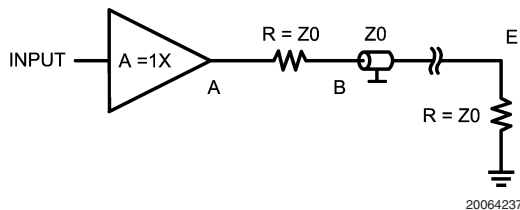
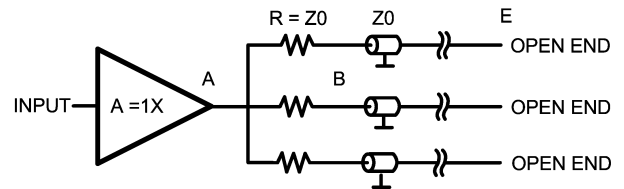
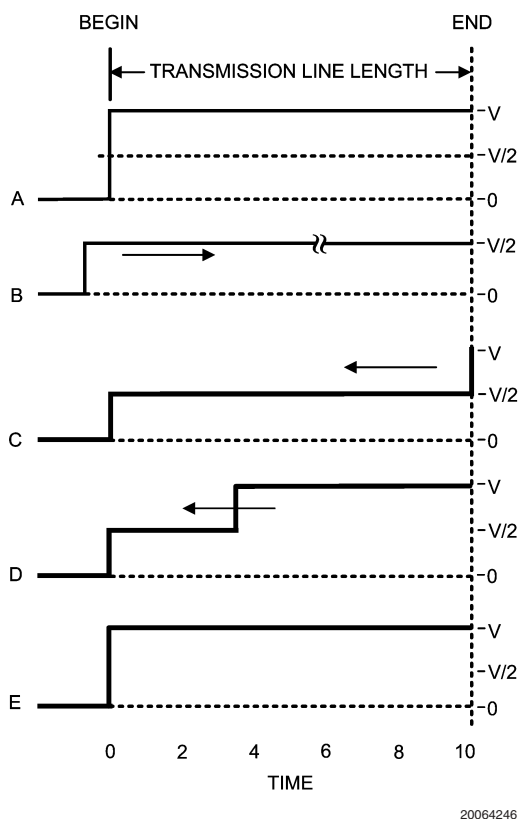

FIGURE 1.
FIGURE 3.
FIGURE 6.
- Use one buffer to drive one transmission line (see *Figure 1*)
- Use one buffer to drive several transmission lines each driving a different receiver. (see *Figure 3*)
In most cases, it is unrealistic to think that we can place a driver or buffer so close to the load that we don't need a transmission line to transport the signal. The pcb trace length between a driver and the load may affect operation depending upon the operating frequency. Sometimes it is possible to do measurements by connecting the DUT directly to the analyzer. As frequencies become higher the short lines from the DUT to the analyzer become long lines. When this happens there is a need to use transmission lines. The next point to examine is what happens when the load is connected to the transmission line. When driving a load, it is important to match the line and load impedance, otherwise reflections will occur and this phenomena will distort the signal. If a transient is applied at $T = 0$ (*Figure 6*, trace A) the resultant waveform may be observed at the start point of the transmission line. At this point (begin) on the transmission line the voltage increases to (V) and the wave front travels along the transmission line and arrives at the load at $T = 10$. At any point across along the line $I = V/Z_0$, where Z_0 is the impedance of the transmission line. For an applied transient of 2V with $Z_0 = 50\Omega$ the current from the buffer output stage is 40mA. Many vintage op amps cannot deliver this level of current because of an output current limitation of about 20mA or even less. At $T = 10$ the wave front arrives at the load. Since the load is perfectly matched to the transmission line all of the current traveling across the line will be absorbed and there will be no reflections. In this case source and load voltages are exactly the same. When the load and the transmission line have unequal values of impedance a different situation results. Remember there is another basic which says that energy cannot be lost. The power in the transmission line is $P = V^2/R$. In our example the total power is $2^2/50 = 80mW$. Assume a load of 75Ω. In that case a power of 80mW arrives at the 75Ωload and causes a voltage of the proper amplitude to maintain the incoming power.
Many applications, such as video, use a series resistance between the driver and the transmission line (see Figure 1). In this case the transmission line is terminated with the characteristic impedance at both ends of the line. See Figure 6 trace B. The voltage traveling through the transmission line
Another way to reach several points via a transmission line is to start several lines from one buffer output (see Figure 3). This is possible only if the output can deliver the needed current into the sum of all transmission lines. As can be seen in this figure there is a series termination used at the beginning of the transmission line and the end of the line has no termination. This means that only the signal at the endpoint is usable because at all other points the reflected signal will cause distortion over the line. Only at the endpoint will the measured signal be the same as at the startpoint. Referring to Figure 6 trace C, the signal at the beginning of the line has a value of $V/2$ and at $T = 0$ this voltage starts traveling towards the end of the transmission line. Once at the endpoint the line has no termination and 100% reflection will occur. At $T = 10$ the reflection causes the signal to jump to $2V$ and to start traveling back along the line to the buffer (see Figure 6 trace D). Once the wavefront reaches the series
termination resistor, provided the termination value is Z_0 , the wavefront undergoes total absorption by the termination. This is only true if the output impedance of the buffer/driver is low in comparison to the characteristic impedance Z_0 . At this moment the voltage in the whole transmission line has the nominal value of 2V (see Figure 6 trace E). If the three transmission lines each have a different length the particular point in time at which the voltage at the series termination resistor jumps to 2V is different for each case. However, this transient is not transferred to the other lines because the output of the buffer is low and this transient is highly attenuated by the combination of the termination resistor and the output impedance of the buffer. A simple calculation illustrates the point. Assume that the output impedance is 5Ω . For the frequency of interest the attenuation is $V_B/V_A=55/5=11$, where A and B are the points in Figure 3. In this case the voltage caused by the reflection is $2/11 = 0.18V$. This voltage is transferred to the remaining transmission lines in sequence and following the same rules as before this voltage is seen at the end points of those lines. The lower the output resistance the higher the decoupling between the different lines. Furthermore one can see that at the endpoint of these transmission lines there is a normal transient equal to the original transient at the beginning point. However at all other points of the transmission line there is a step voltage at different distances from the startpoint depending at what point this is measured (see trace D).